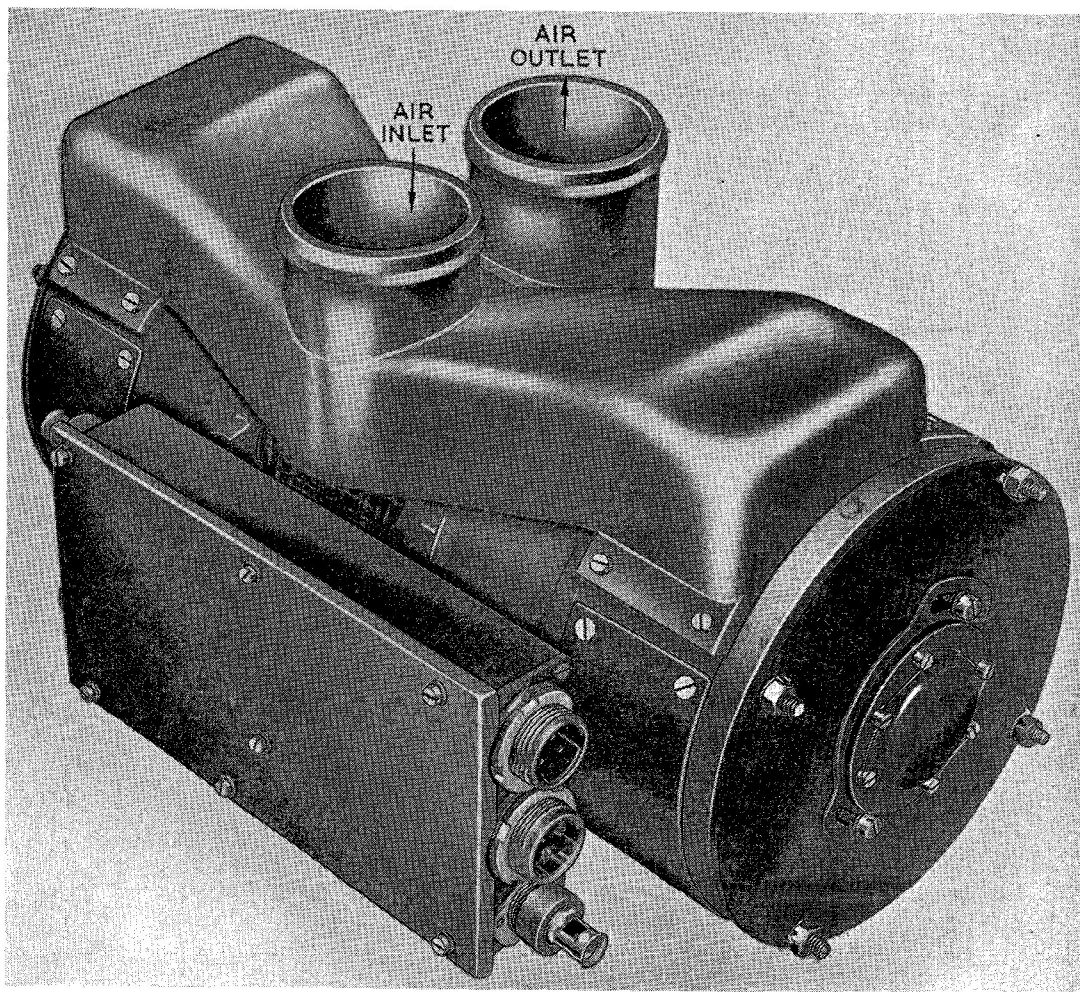

Fig. 4. Inverter arranged for blast cooling
8. To modify an inverter so that it can be blast cooled, an air inlet manifold and an outlet pipe are fitted as shown in fig. 4. Before fitting the manifold and pipe, the grilled covers must be removed from the necessary ventilation holes. The pipe and